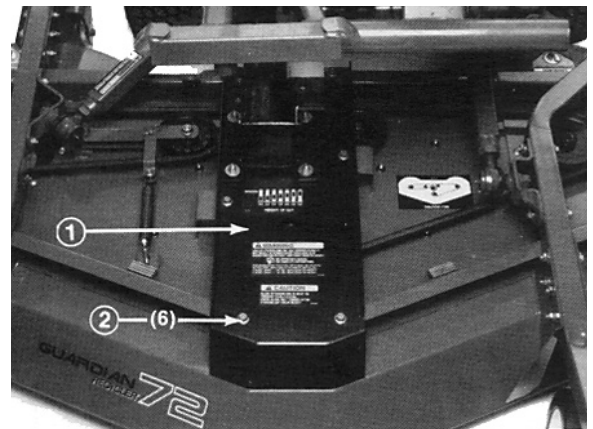

Figure 13
- Route the new belt around the spindle pulleys and through the idler pulley assembly, as shown in Figure 13.